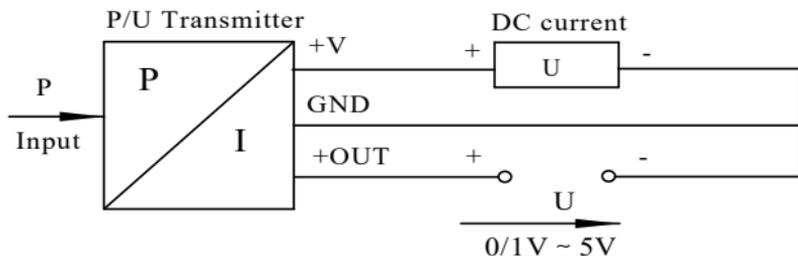

Fig 5
4.1.3 Electrical connection method of transmitter with 3-wire 0V~5/10V DC output, to fig 5.